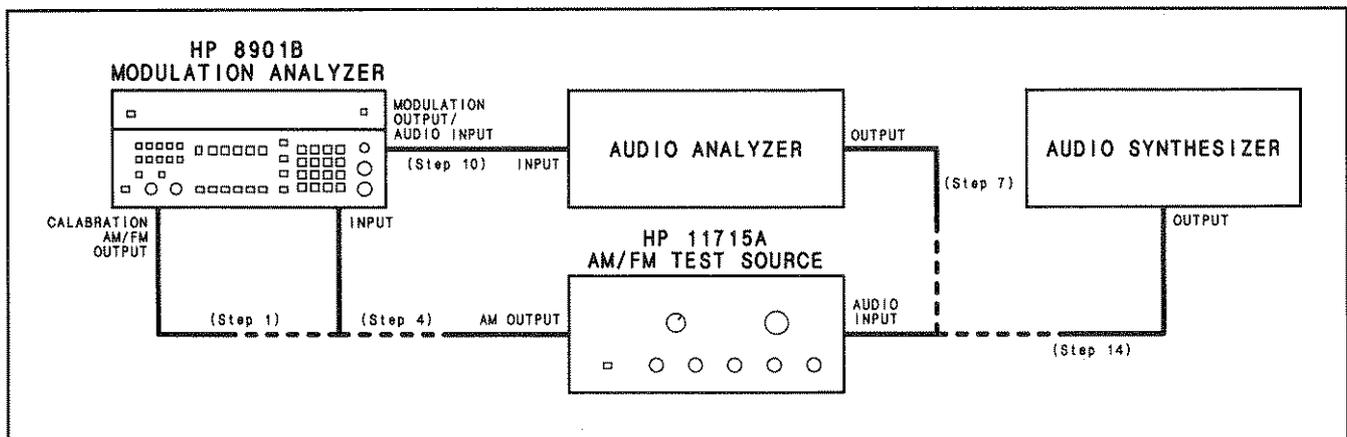

Figure 4-1. AM Performance Test Setup
- 4. On the AM/FM test source, set the test mode switch to AM. Connect the test source AM output to the Modulation Analyzer's INPUT. (See Figure 4-1. Nothing should be connected to the test source's audio input.)
- 7. Set the audio analyzer's oscillator to 20 kHz. Connect its output to the audio input of the AM/FM test source. (See Figure 4-1.)
- Connect the audio analyzer's input to the Modulation Analyzer's MODULATION OUTPUT/AUDIO INPUT. (See Figure 4-1.) Set the audio analyzer to measure the distortion on the 20 kHz signal at the MODULATION OUTPUT/AUDIO INPUT with 80 kHz of low-pass filtering (on the audio analyzer). The distortion should be 0.3% or less (-50 dB or less).
- Set the audio synthesizer to 1 kHz at +1 dBm. Connect its output to the audio input of the AM/FM test source. (See Figure 4-1.) Fine adjust the audio synthesizer level for a Modulation Analyzer display of 80% AM.